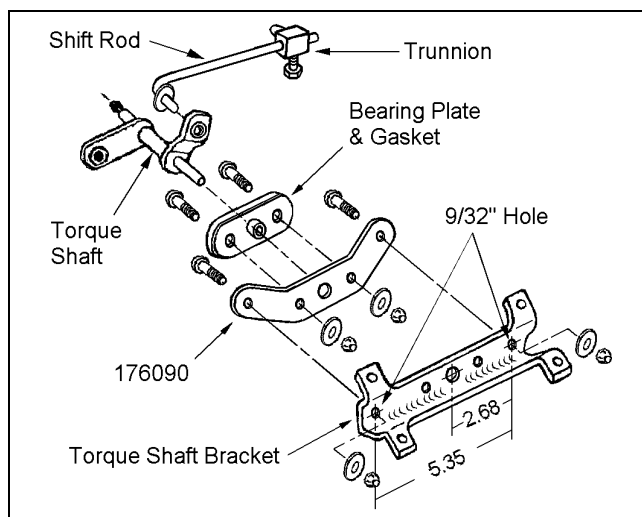

Figure 20
- 4) ☐ Attach the bearing plate (with gasket) to shift relocating bracket 176090 as shown in figure 20.
- 5) ☐ Using bracket 176090 as a template, mark the two mounting holes locations on the torque shaft bracket. See figure 20. Drill a 9/32" hole at each location.
- 6) ☐ Attach the shift relocating bracket 176090 to the torque shaft bracket with the hardware from kit 860160. See figure 20.